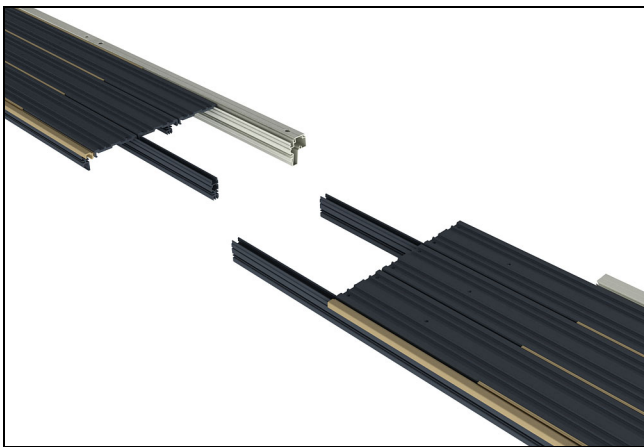

Figure 23
5. Align all components of head jamb sections and slide together. See figure 23.